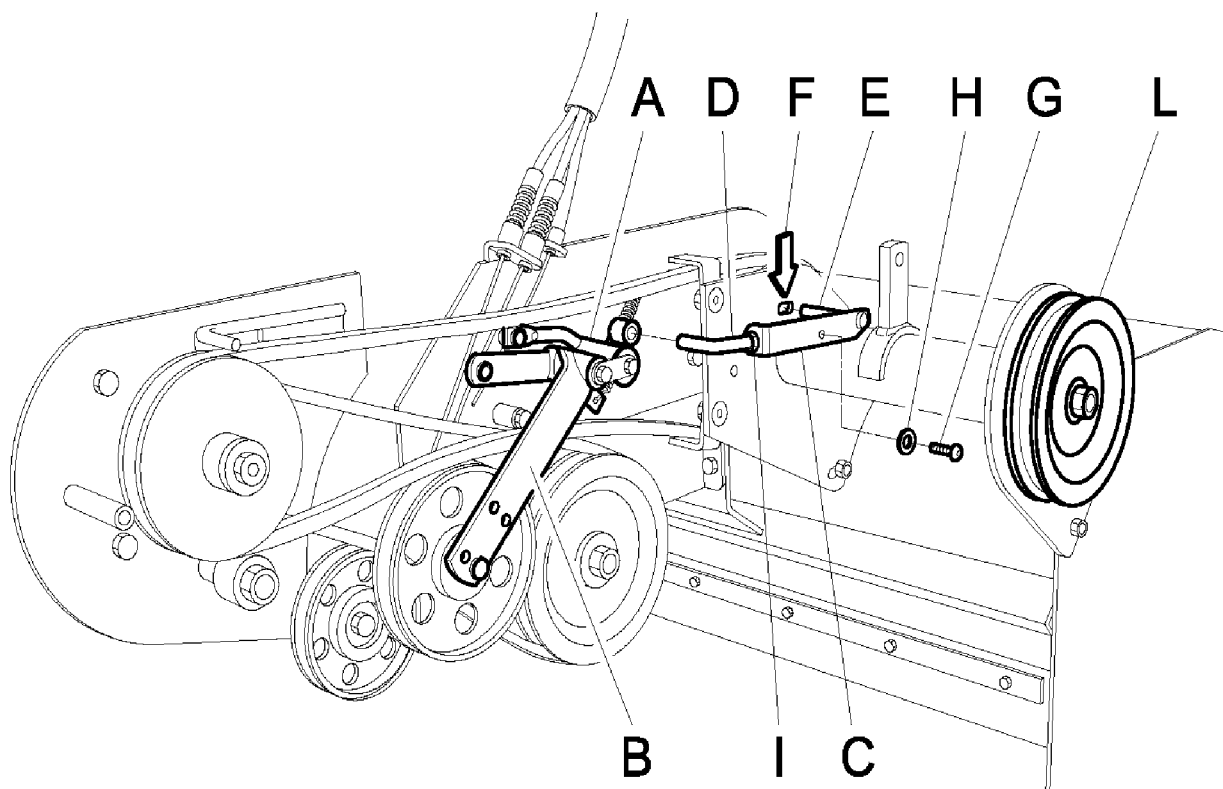

Figure 6
After removing the setting screw for the brake (Fig 6 Ref C) by unscrewing it (Fig 6 Ref G), adjust it as follows:
Make sure the rotor brake intermediate transmission (Fig 6 Ref A) is at rest, so it is resting on the roller rotation tension rod (Fig 6 Ref B).
Put the rotor brake control (Fig 6 Ref C), already preassembled with the threaded pin (Fig 6 Ref D), in position so that the threaded pin enters the seat of the rotor brake intermediate transmission (Fig 6 Ref A) without moving away from its position at rest and the brake control pin (Fig 6 Ref E) touches the front of the slot on the pulley transmission without the need to force it (Fig 6 Ref F).
Secure the rotor brake control with the screw (Fig 6 Ref G), making sure it moves smoothly: the washer (Fig 6 Ref H) should be able to move freely after the counter nut has been secured tightly.
When you lock the counter nut on the threaded pin (Fig 6 Ref I), make sure the pin remains loose inside its seat for the movement of the brake control (Fig 6 Ref A) and do not force it to go inside.
When the rotor engagement lever is in this position, test the brake pulley with your hand (Fig 6 Ref L) to check it is able to turn. If it does not turn, adjust the setting screw for the rotor brake cable accordingly (Fig 5 Ref E).
- Remove the setting screw on the brake (Fig 6 Ref C) by unscrewing the screw (Fig 6 Ref G)